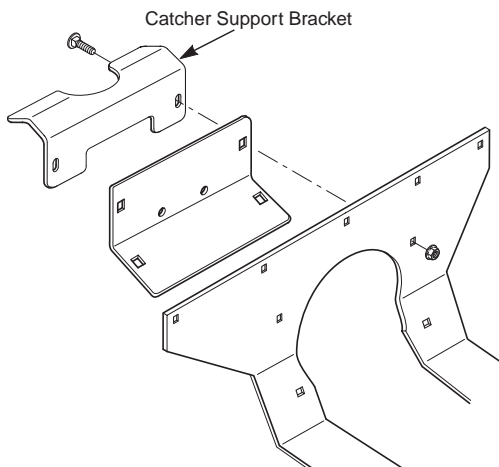

FIGURE 3-5
14. Install the catcher support bracket onto the rear of the machine and secure with 5/16-18 x 1" carriage bolts (p/n 04003-04) and 5/16-18 serrated flange nuts (p/n 04019-03). See Figure 3-5.